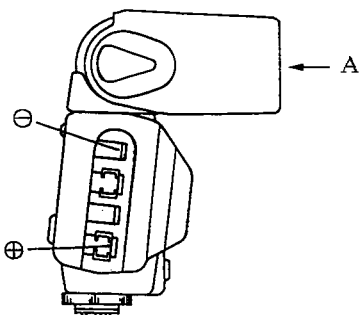

Fig 2
In case of disassembly of the upper half SB body (Fig2-A) or, of replacement of any part in the upper half SB body, the adjustment above in the process order of No. 3, 5 and 6 shall be performed.
*How to adjust : Set the flash function to any mode and then connect the voltage meter with between TP1 and TP2 for the sake of adjustment.(Fig 2)